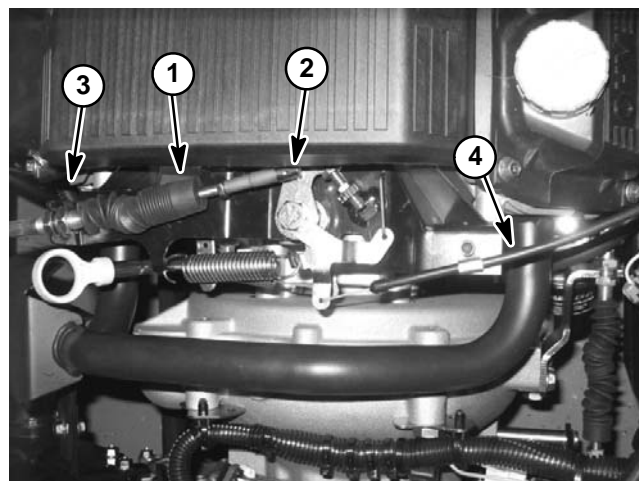

Figure 8
9. Disconnect accelerator cable shoulder bolt from throttle lever on engine. Loosen jam nuts on cable and remove cable from throttle bracket. Position accelerator cable away from engine (Fig. 8).
10. Disconnect choke cable from choke lever on engine. Remove choke cable from bracket (Fig. 8).
13. Loosen and remove four (4) flange nuts and flange head screws that secure engine to engine mount.
14. Remove six (6) cap screws and two (2) harness brackets that secure clutch bell housing to clutch adapter on engine.
16. Note location and retrieve two (2) dowel pins from bell housing.
4. Place two (2) dowel pins in bell housing.
6. Secure bell housing to clutch adapter on engine with six (6) cap screws and two (2) harness brackets.
7. Secure engine to engine mount with four (4) flange nuts and flange head screws.
8. Connect choke cable to choke lever on engine (Fig. 8).
9. Connect accelerator cable ball joint to throttle lever on engine (Fig. 8). Secure cable to throttle bracket with jam nuts.